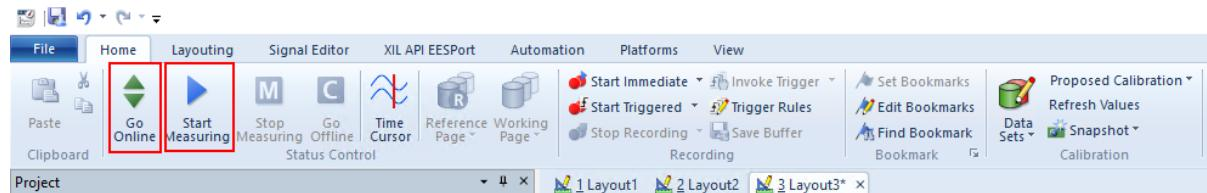
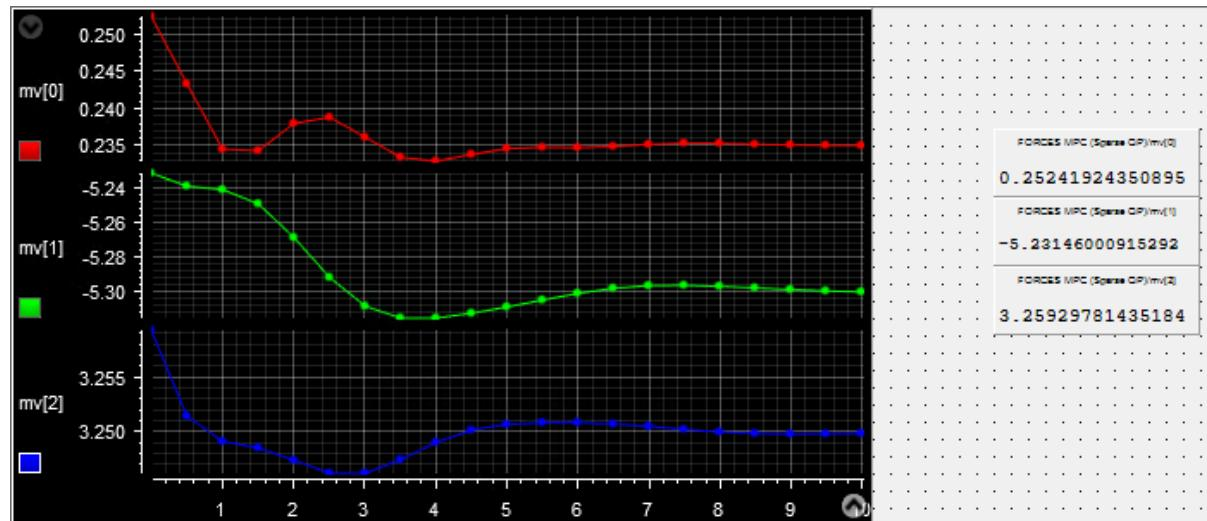

Figure 6.21: Buttons Go Online and Start Measuring to receive execution results
Figure 6.22: Plots and results from experiment on dSPACE MicroAutoBox II
- 16) Select Go Online and Start Measuring to see the results. (see Figure 6.21 and Figure 6.22).